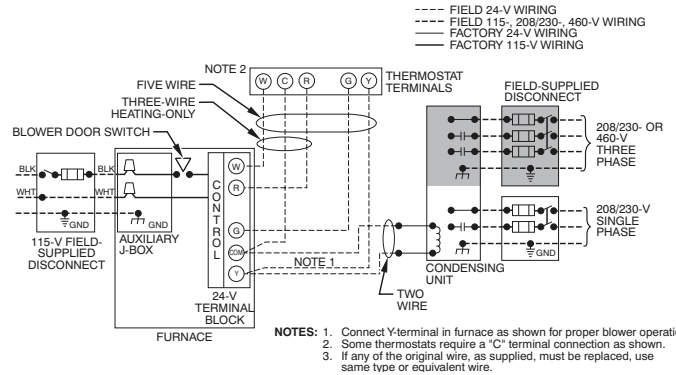
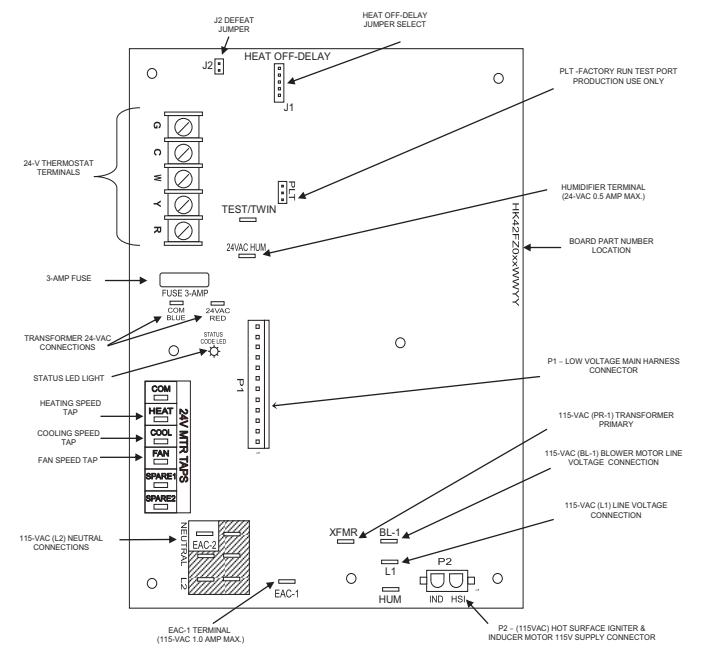
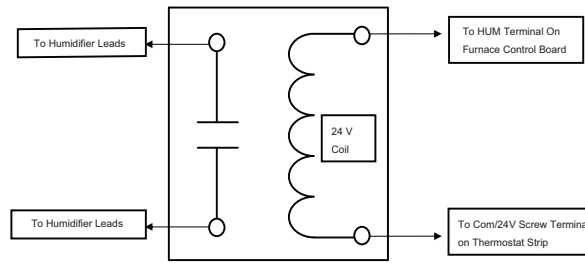

Fig. 32 – Typical Single-Stage Wiring Diagram
Fig. 36 – Example of Single Stage Furnace Control A190022
Fig. 37 – Field-Supplied Isolation Relay for Humidifiers with Internal Power Supply
See Fig. 32 for field wiring diagram showing typical field 115-v wiring. Check all factory and field electrical connections for tightness.
6. Connect power cord power and neutral leads to furnace power leads as shown in Fig. 32.
5. Connect field power and neutral leads to furnace power leads. as shown in Fig. 32.
Make field 24-v connections at the 24-v terminal strip. See Fig. 36. Connect terminal Y as shown in Fig. 32 for proper cooling operation. Use only AWG No. 18, color-coded, copper thermostat wire.
The 24-v circuit contains an automotive-type, 3-amp. fuse located on the control. Any direct shorts during installation, service, or maintenance could cause this fuse to blow. If fuse replacement is required, use ONLY a 3-amp. fuse of identical size. See Fig. 36.
(See Fig. 37 and Fig. 36)
NOTE: If the humidifier has its own 24 VAC power supply, an isolation relay may be required. Connect the 24 VAC coil of the isolation relay to the HUM and COM/24V screw terminal on the control board thermostat strip. See Fig. 37.